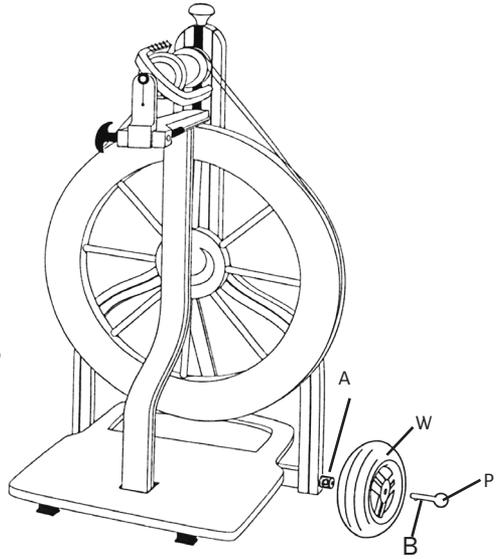

FIGURE 2
1. To install the cart wheels (W), insert the hitch pins (P) through the wheels and into the hole in the end of the axle bolts (figure 2). Turn the pin until the small ball (B) in the end fits into the cross hole (H) in the axle.